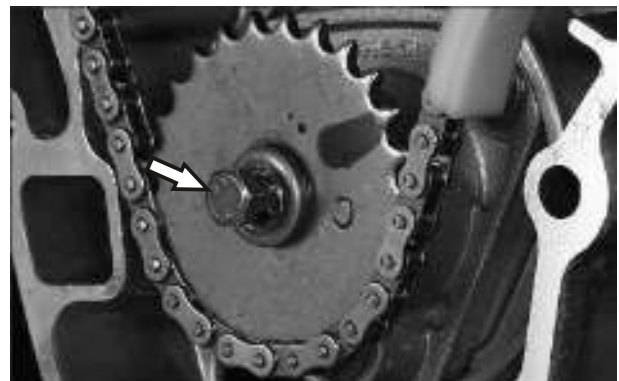

Fig. 3.19
- Take out the gear oil pump drive. (Fig. 3.19)